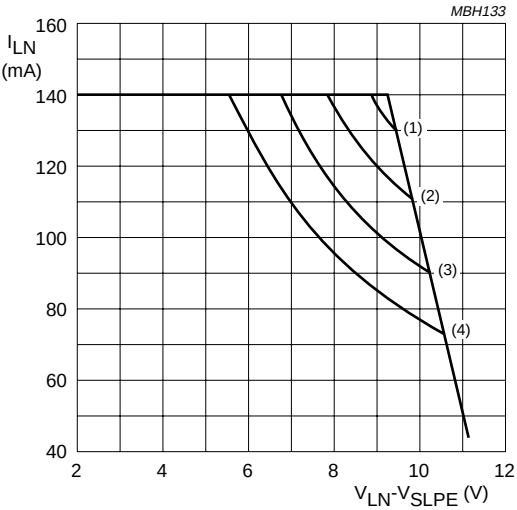

Fig.7 TEA1067 safe operating area.
The TEA1067 has an internal current stabilizer working at a level determined by a 3.6 k Ω resistor connected between STAB and V_{EE} (see Fig.7). When the line current (I_{line}) is more than 0.5 mA greater than the sum of the IC supply current (I_{CC}) and the current drawn by the peripheral circuitry connected to V_{CC} (I_p) the excess current is shunted to V_{EE} via LN.
- Mostly dependent on the maximum required T_{amb} and on the voltage between LN and SLPE. See Figs 7 and 8 to determine the current as a function of the required voltage and the temperature.